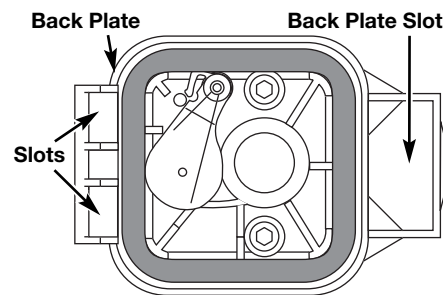

Fig. 36
6. Replace the filter (Fig. 36).
7. Reinstall the air filter cover. Position the hooks on the left side of the air filter cover into the slots at the left side of the back plate (Fig. 36).